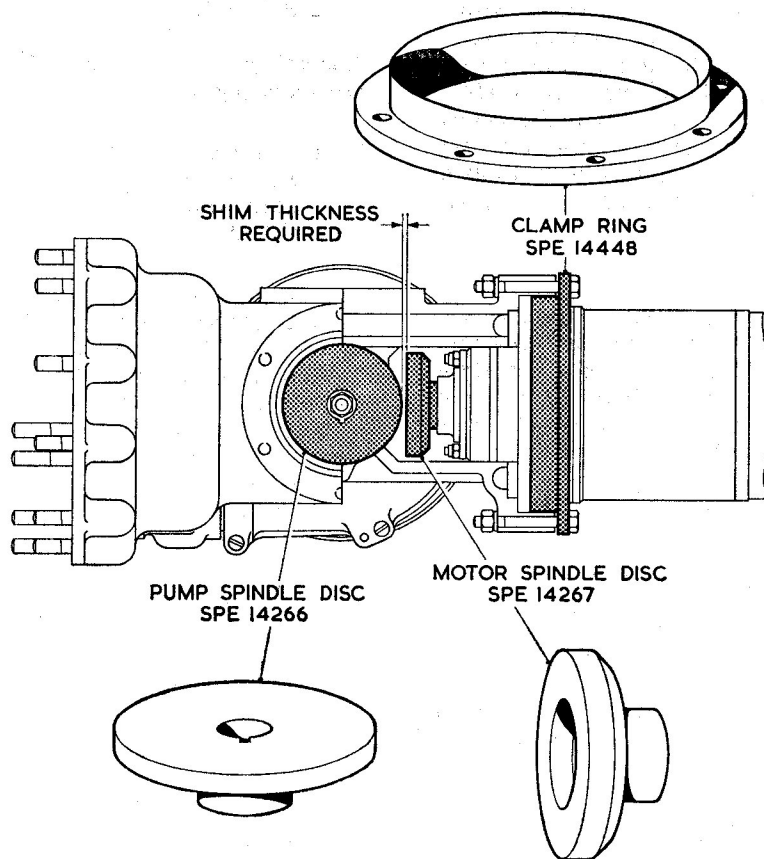

Fig. 18. Tools for shimming the bevel pinion
(2) Fit the special pump shaft disc SPE. 14266 (fig. 18) in place of the removed gear.
(3) Remove the bevel pinion or spacer fitted to the motor unit. Fit the distance piece (142, fig. 10) and key (18). Assemble the special motor shaft disc. SPE. 14267 (fig. 18) and secure.
(4) Locate the motor unit on the dowel in the recessed housing of the pump casting, threading the motor leads into the kidney shaped casting conduit. Secure in position with the special clamping ring SPE. 14448 (fig. 18) and 4BA bolts (23) and nuts (28, fig. 3). Use the latter in four positions only.
(5) Using feeler gauges measure the gap between the outer edge of the pump shaft disc and the front face of the motor shaft disc (refer to fig. 18). This is the thickness of shim required for correct assembly of the spiral bevel pinion on the motor shaft.
(6) Remove the motor unit from the pump casting. Unscrew the nut securing the disc to the motor shaft.
55. (1) Remove the special pump shaft disc SPE. 14266 (fig. 18) and refit the spiral bevel gear (14, fig. 3) paired with the pinion fitted to the motor unit.